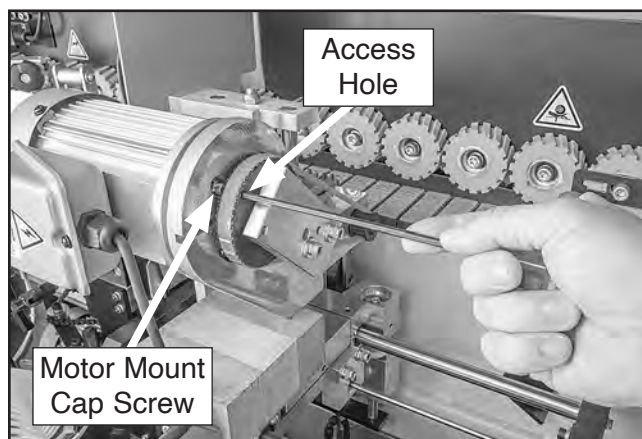

Figure 109. Loosening one of four end trimmer motor mount cap screws.
7. Rotate end trimmer motor pulley by hand until access hole aligns with one of four motor mount cap screws (see **Figure 109**).